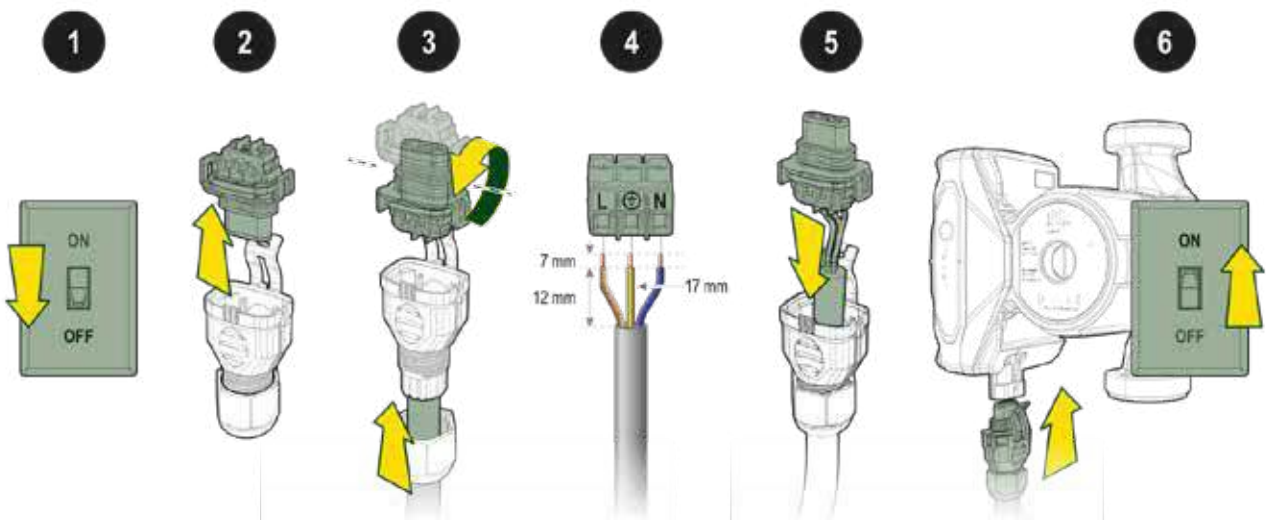

Fig. 10
Proceed as follows to connect the circulator (see Fig. 10):
Insert the cable through the nut, strip the wires as shown in Fig. 10 and insert it through the cable gland. Connect the phase (L), neutral (N) and earth (PE y/g) wires to the terminal board and tighten the three screws on the wires;